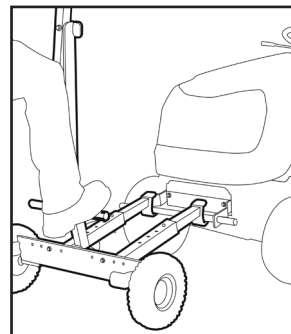
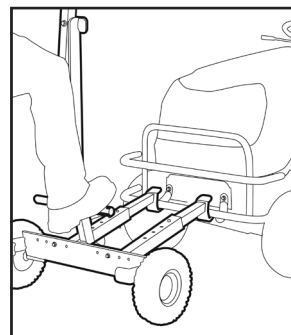

Figure 1.
Figure 2.
- Ensure that claws at ends of lift tubes are securely hooked under the lift cross tube attached to tractor (Figure 1) or to the tractor bumper/brush guard (Figure 2.)